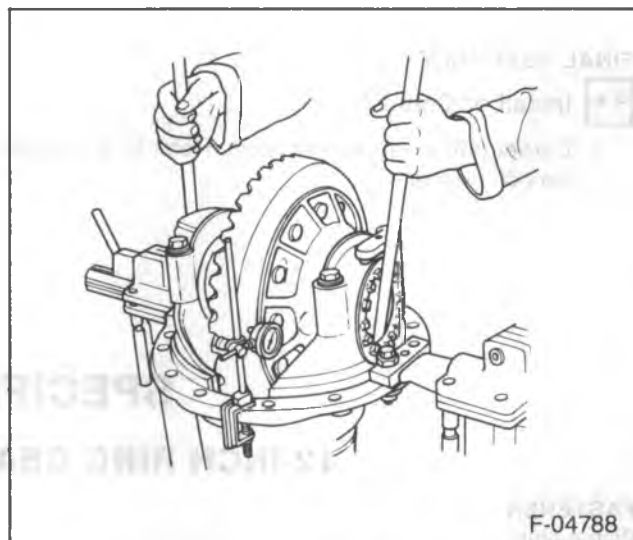

Figure 25—Adjusting Side Bearing Preload
1. The bearing preload by tightening the adjusting nuts (32) one notch each from 0.000 end play. Refer to "Checking Ring Gear Run Out" (figure 25).